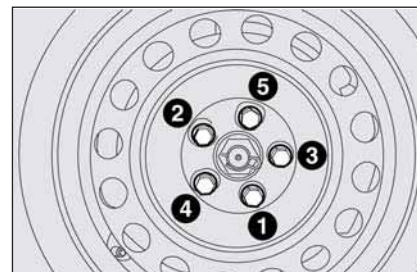

fig. 9
- ☐ use the wrench provided to fasten the bolts completely in a criss-cross fashion as shown in **fig. 9**.